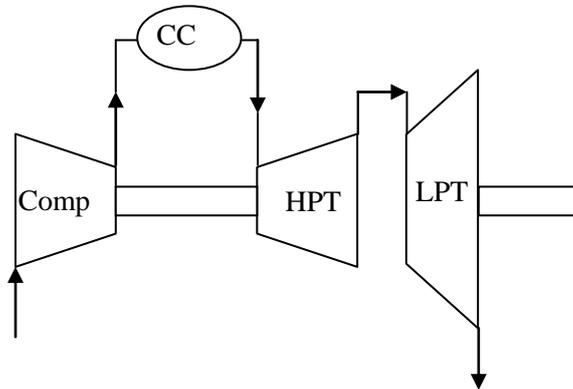

Fig Q2
2. The layout of a gas turbine plant is shown in Fig Q2. The plant operates between pressures of 0.98 bar and 7.01 bar. All the work produced by the HP turbine drives the compressor.